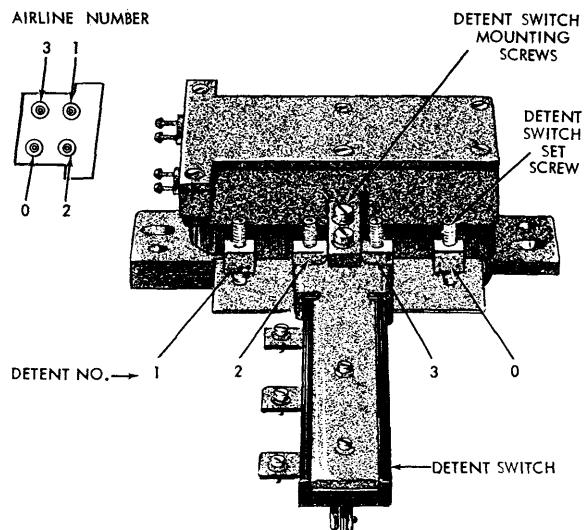

Figure 72. Ten Million Character File Track Detent Assembly
4. Apply air to any track detent piston and adjust that detent's set screw until the n/o contact is just made. Then turn the set screw  $\frac{1}{4}$  turn clockwise (See Figure 72).